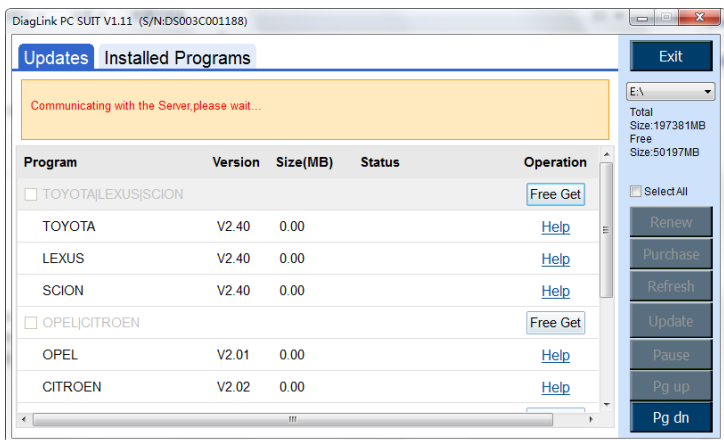

Figure 10.7
- 7) If your Autel ID is correct and valid, the program will establish communication with Server on-line and reload the list (Figure 10.7).